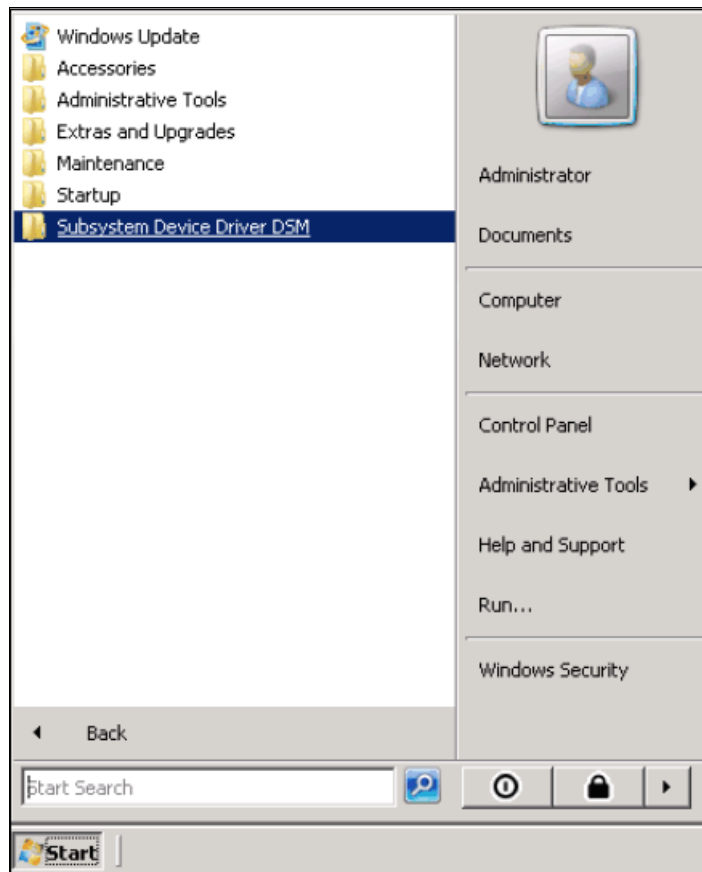

Figure 5-82 SDDDSM in Startup
- ▶ You can use the **SDDDSM** entry in the *My Programs* startup menu, as shown in Figure 5-82. The SDDDSM tools contain Subsystem Device Driver DSM, SDDDSM Technical Support website, README, and Notes.